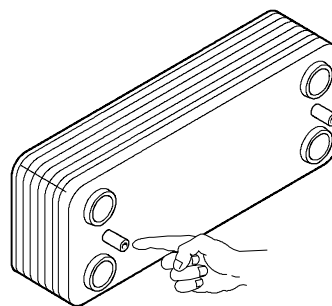

Fig. 17
**Attention.** When reassembling the exchanger be sure to put the off center location/securing pin indicated in Fig. 17 towards the left side of the boiler.